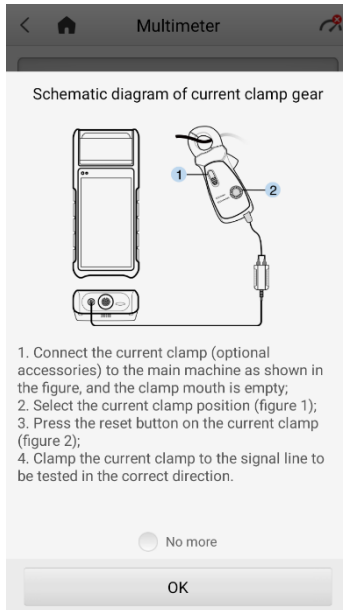

Figure 9-3 Sample Schematic Diagram of Current Clamp
3. When measuring AC/DC current, different measuring ranges require different operations of the clamp (see Figure 9-3). Tap **no more** to hide diagram.